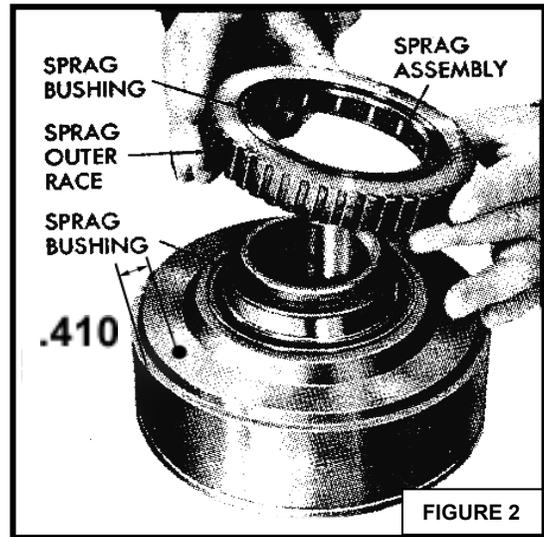

FIGURE 2
2. If using a direct drum that is not equipped with a high flow checkball(s), it is necessary to drill a constant bleed orifice in the drum, using a 1/16" drill. A drill press should be used for this operation. At any place on the outer circumference of the drum, measure in from the edge .410" and place a center punch mark. *figure 2*